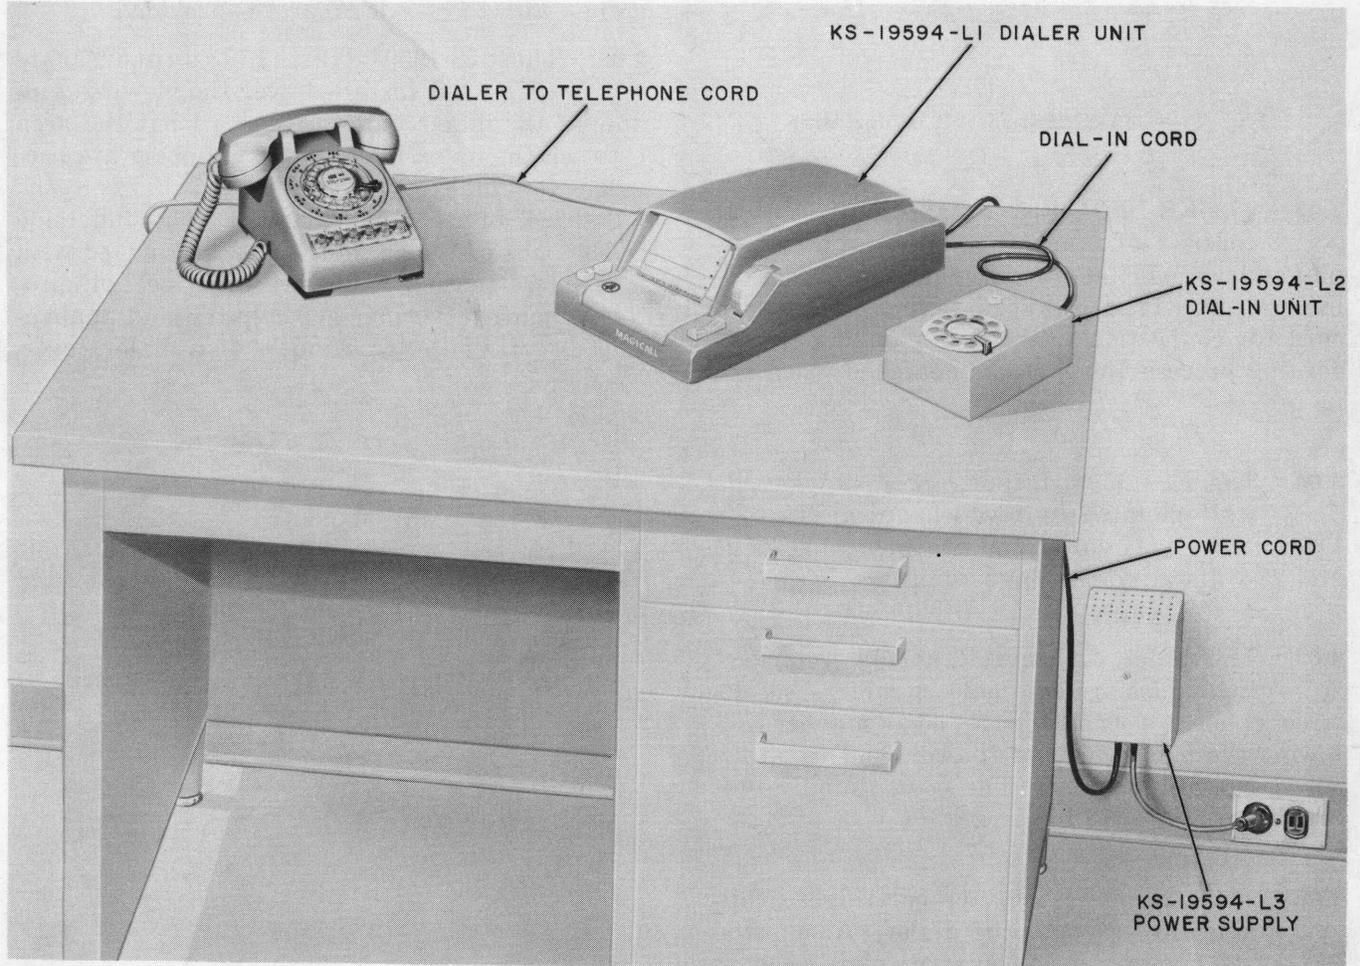

Fig. 1 — KS-19594 Dialer — Typical Installation
2.01 The KS-19594 dialer consists of a magnetic recording repertory dialer unit, a detachable dial-in unit, a wall mounted power supply, and associated interconnecting cords. A typical unit installation is shown in Fig. 1.